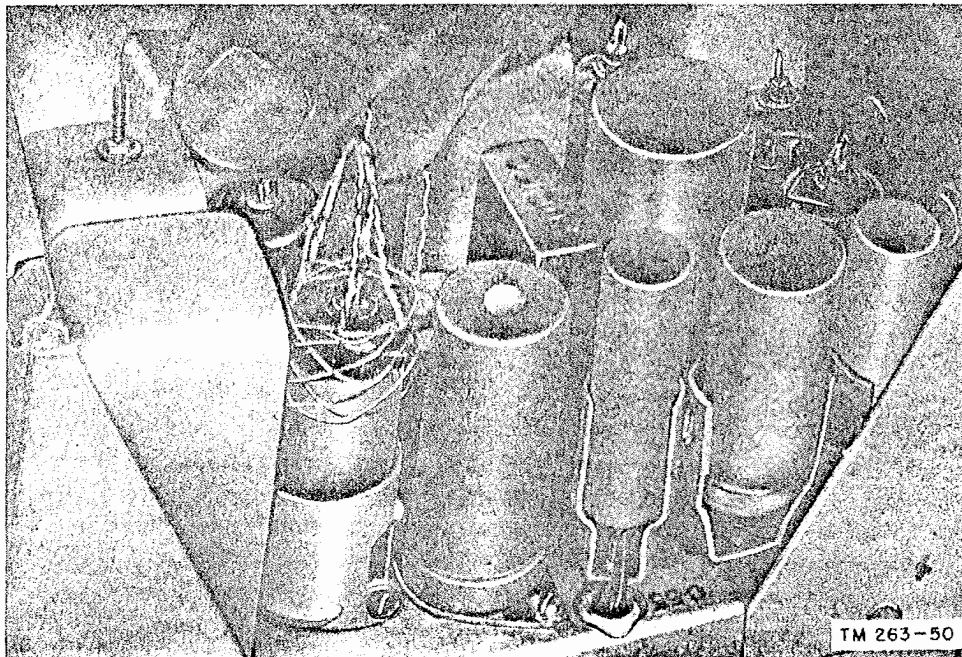

Figure 41. Removing tubes by means of tube puller; Kellems No. 11-16.
b. The remainder of the tubes and crystals are located under a small plate (fig. 39). The tubes are V101, V102, and V105 and the crystals are 1A, 1B, 2A, 2B, 3A, and 3B. The cover plate can be removed by releasing the spring catches at both ends of the plate and lifting straight upward. The tubes and crystals are then easily accessible. The tubes can be removed as shown in figure 41.